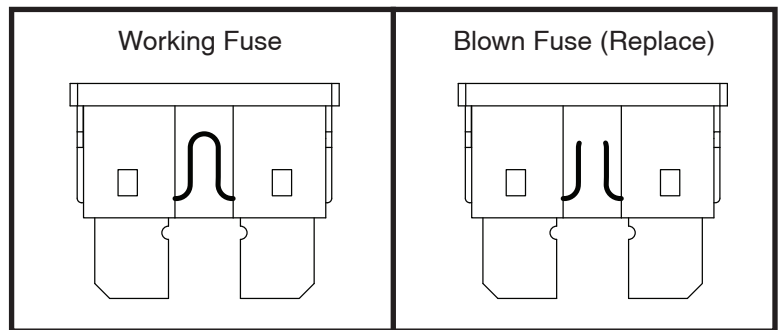

Figure 19. Fuse Replacement
2. Examine the fuse to be sure it is blown. See figure 19.